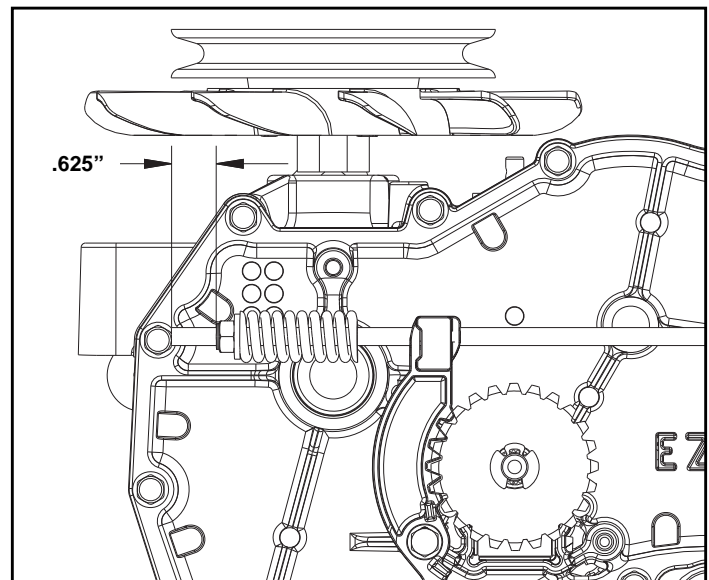

Figure 4-9
3. Adjust the nylock nut on the end of the brake rod so that 0.625" of thread is showing. Repeat for other side. Figure 4-9